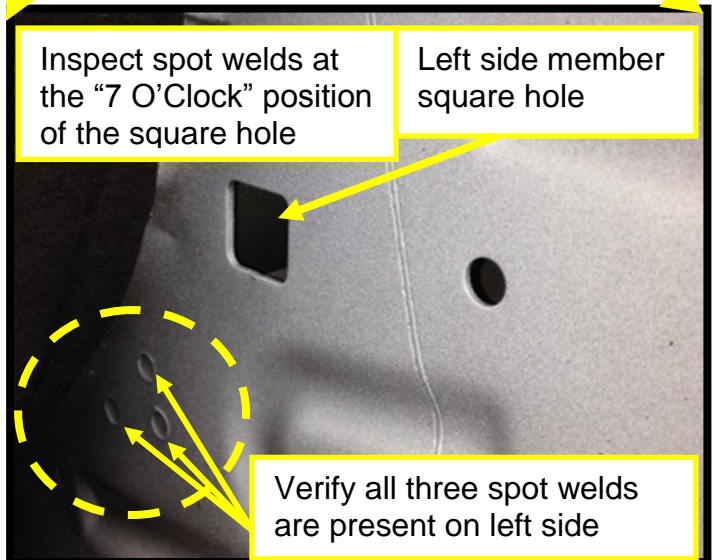

Figure 2
3. Using a light, verify there are **three** spot welds at the "7 O'Clock" position of the square hole (See Figure 2).